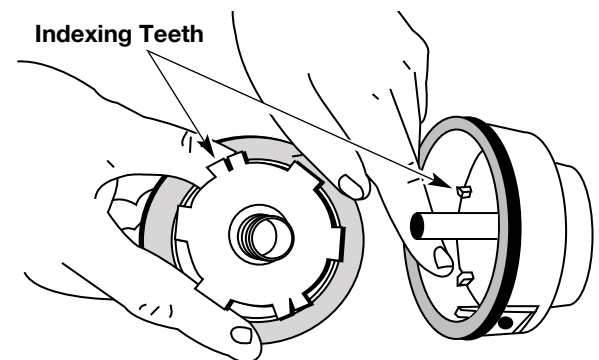

Fig. 21
5. Check the indexing teeth on the inner reel and outer spool for wear (Fig. 21). If necessary, remove burrs or replace the reel and spool.